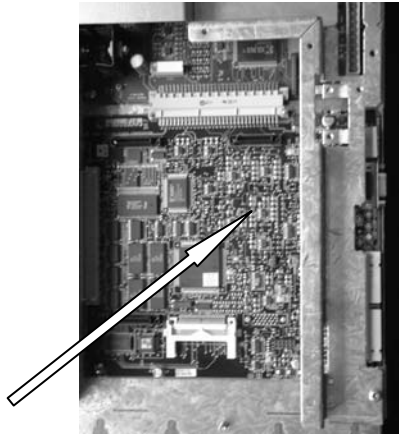

Figure 3-7 DELTA System – positioning the CAN 2 Board
5. Locate the connector on the CAN board into the drive-to-drive socket at the front of the control board, as shown in Figure 3-7